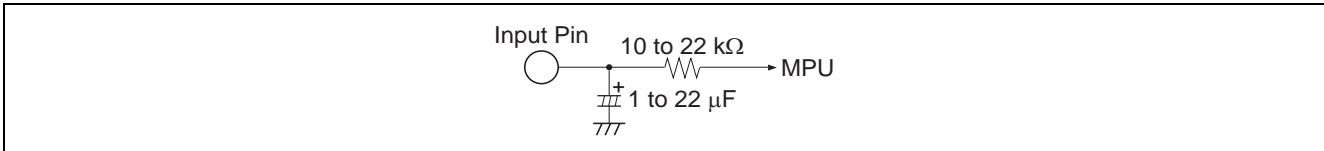

Figure 2 Interface for Reduction of Pop Noise
3. Reducing pop noise is so much better for 10 k $\Omega$  to 22 k $\Omega$  resistor and 1  $\mu$ F to 22  $\mu$ F capacitor shown figure 2.